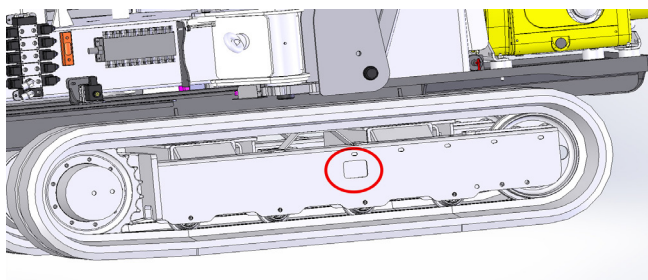
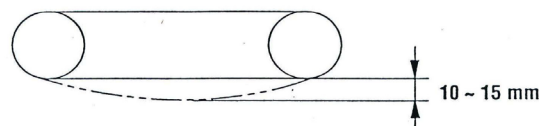

Fig.5.3
Fig.5.3a
- Check the tracks tension, (only for the tracked version). If they're inflected, it is recommended to put them under tension by using a greasing pump (6bar), as shown in Fig. 5.3. With the machine raised, adjust the yield of the track to 10-15 mm (Fig 5.3a).